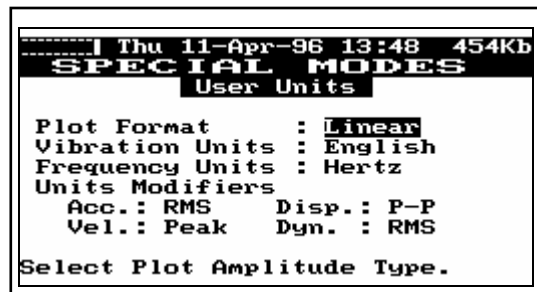

Figure 11
**SM3 User Units.** After pressing the **[ENTER]** key, the screen will display the “SPECIAL MODES User Units” banner. (See Figure 11). In the lower area of the screen seven selectable user unit settings. To move between fields, press the **[UP ARROW]** or **[DOWN ARROW]** key.